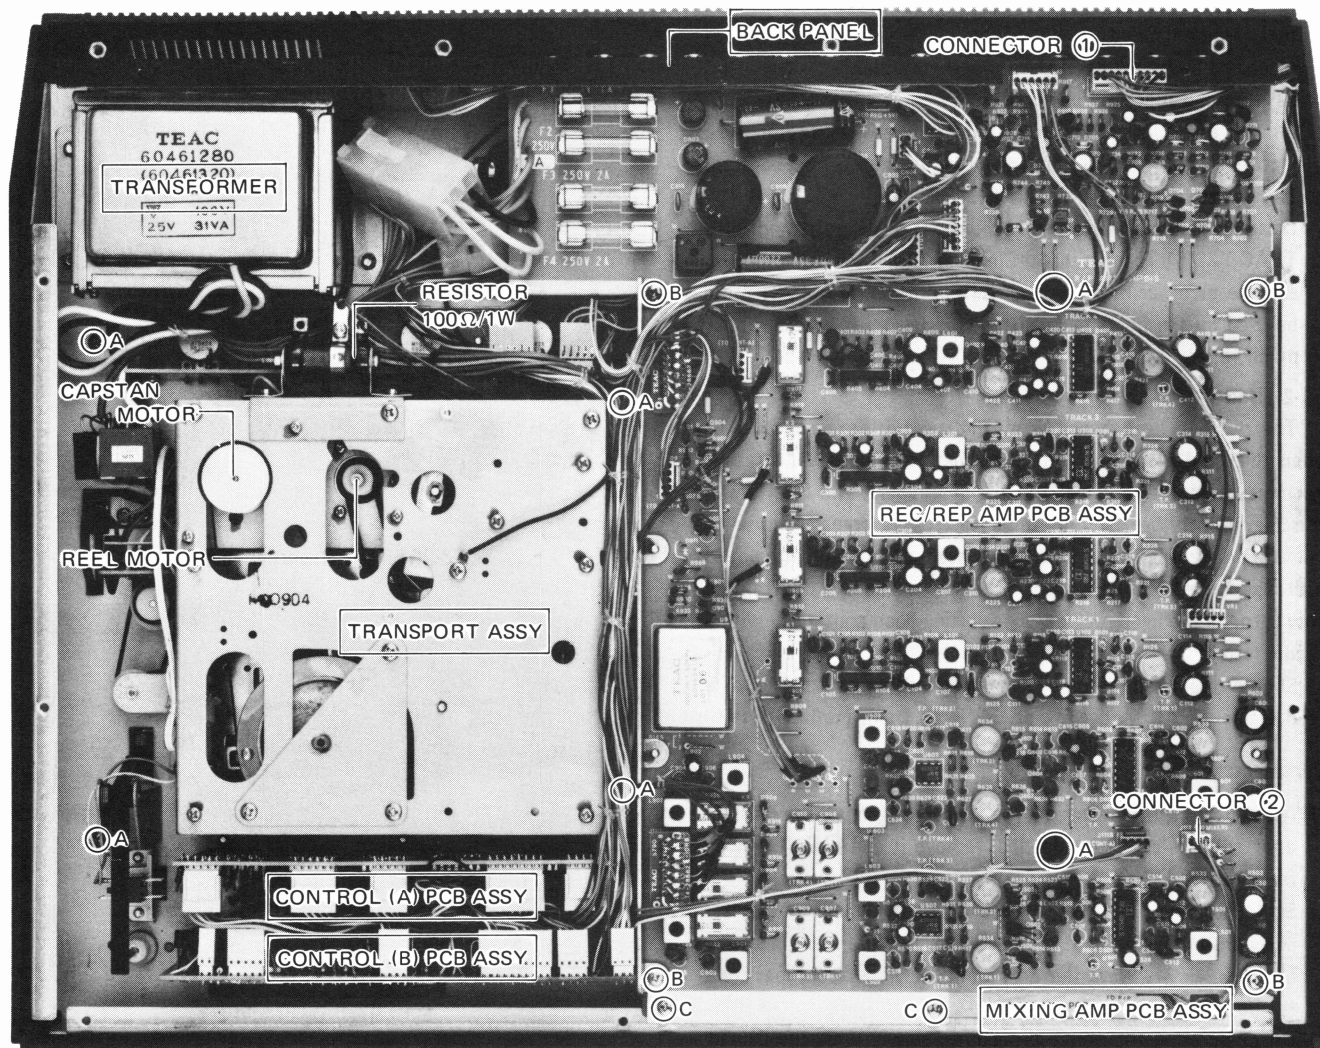
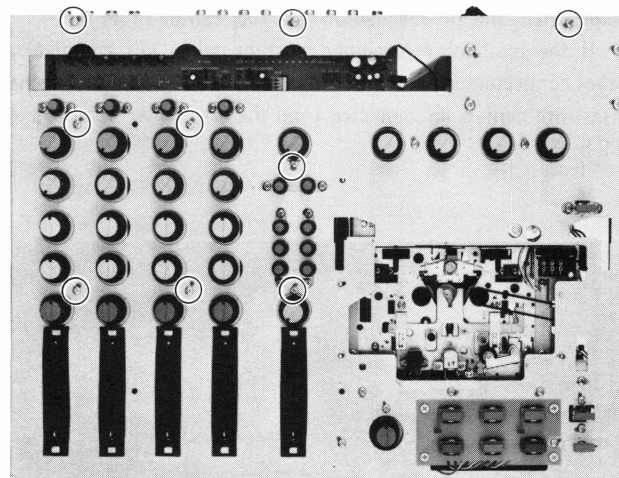

Fig. 5-2-1
Fig. 5-2-3
- Remove the six washer head taptite screws from the rear side. Fig. 5-2-1, circled screws (A mark)
- If the Trim Cover Assembly is to be removed completely, disconnect the cable harness connector ① leading from the VU meters. Fig. 5-2-1
- Refer to Fig. 5-2-1.
- If you need only to inspect the PC pattern on the rear side, the right hand side can be lifted by removing the screws and disconnecting cable harness connectors ① and ②.
- Remove the screws (c mark) on the rear side (Fig. 5-2-1), and screws on the front side (Fig. 5-2-3). If it is for checking or replacing parts of the PCB, it is recommended to do so with the rear panel attached.